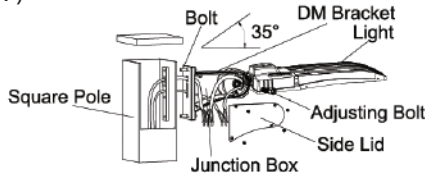
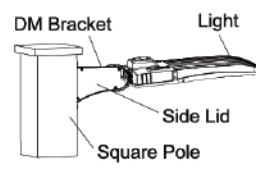

Figure 15
Figure 16
Step 1: Fix DM bracket to square pole with bolt, open the side lid of DM bracket, pull the wire into junction box, and connect the wire correctly. (Figure 15)
Step 2: Put the connected wire into the junction box, then cover the junction box.(Figure 16) Notice: Adjustable angle is 0-35°(Figure 15).